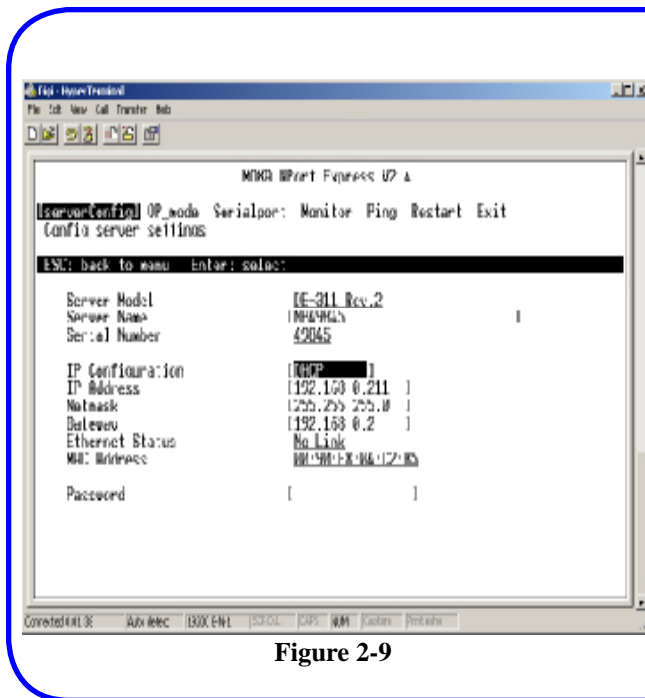

Figure 2-9
20. Move to **IP Configuration** and press the **ENTER** key. **Figure 2-9**
Note: The numbers shown in Figure 2-9 are just an example and are not necessarily the numbers that will be used at your particular site.